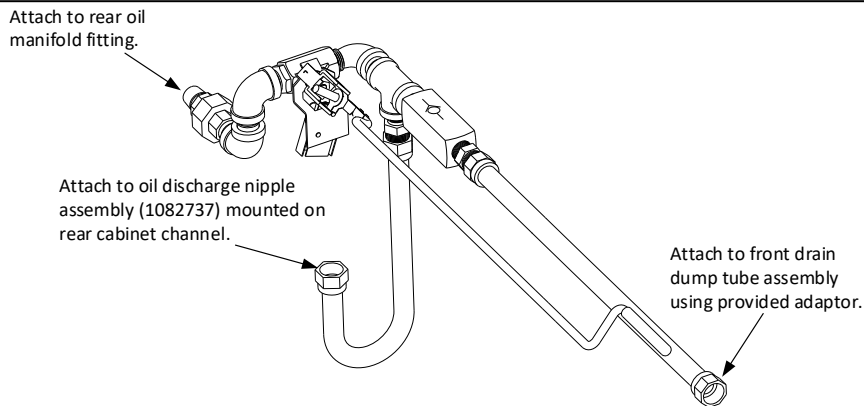

Figure 4: Rear oil disposal assembly – Front View
9. Insert the new rear oil disposal assembly into position. The rod should slide between the first and second burners from left to right. See Figures 4 and 5.